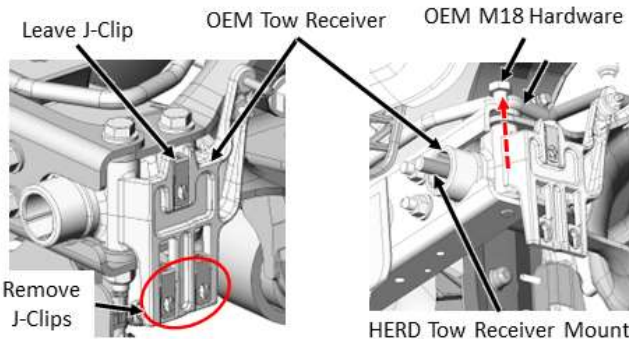

Figure 2b:
2. Remove the bottom J-clips and leave the top J-clip on the truck's OEM Tow Receiver; see Figure 2b.